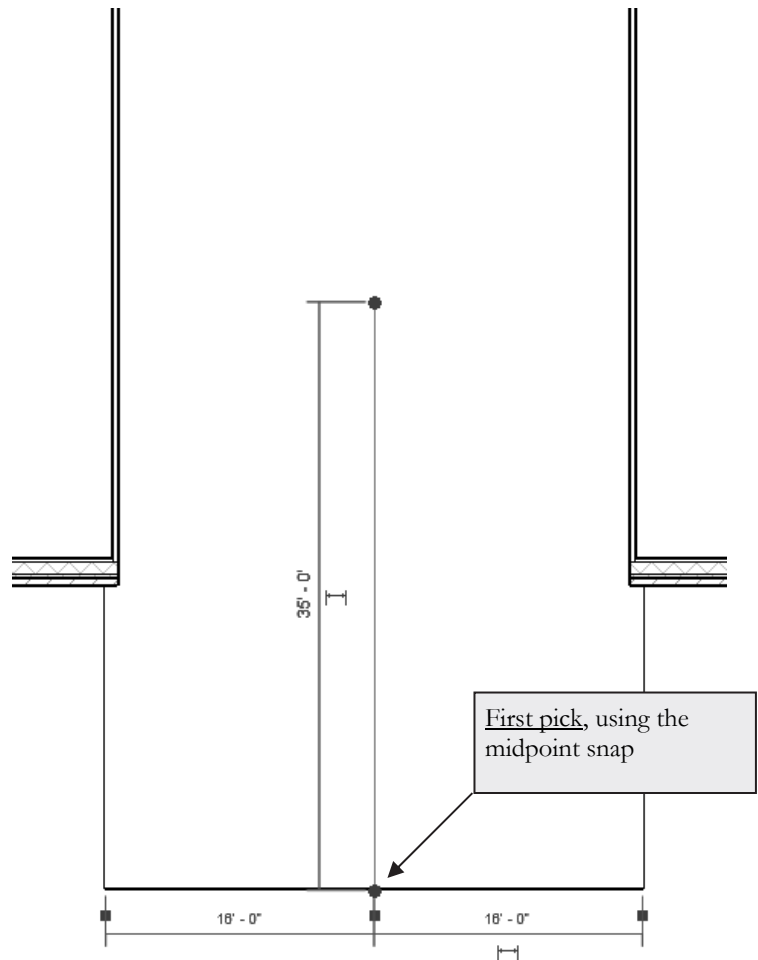

FIGURE 3-3.3
10. Draw the “vertical” line, **35'-0"** long, as shown in Figure 3-3.3; be sure to snap to the *Midpoint* of the atrium wall as your first point.